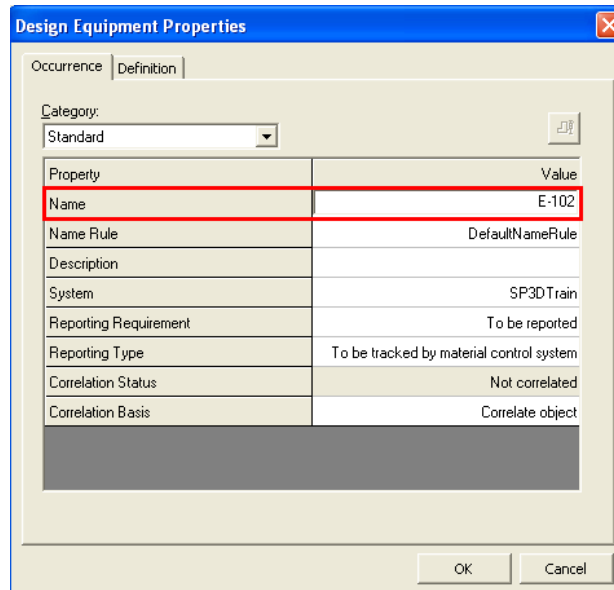

Figure 7: The Equipment Named as E-102
6. Key in **E-102** for the **Name** as shown in the Figure 7.